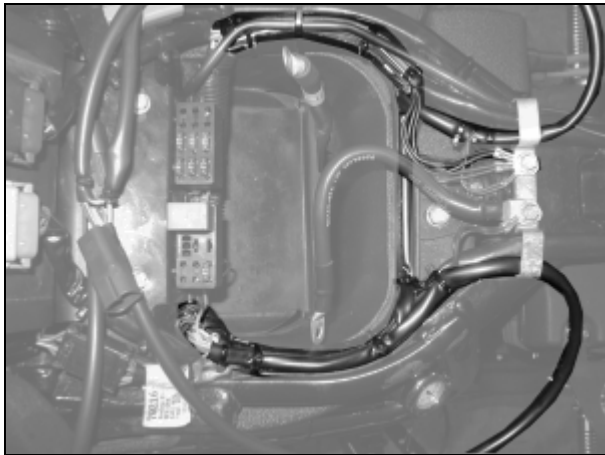

Figure 4. CCWH Position
7. See Figure 4. Remove left bolt and loosen right bolt on wire clamp. Route left and right side of CCWH to right side of shield loom. Route right side of CCWH under right side of wire clamp. (right side harness can be identified by black Deutsch male connector housing and includes two connectors for the throttle roll-off switch). Route left side of CCWH in cross wire trough of the shield loom (left side harness can be identified by grounding connector, gray Deutsch male connector housing). Place left side of CCWH including gray Deutsch connector under wire clamp closest to the left wire clamp bolt.